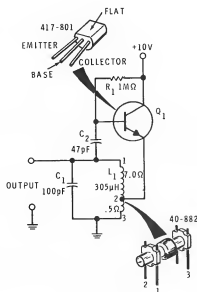

Figure 4-93
1. Construct the series-fed Hartley oscillator shown in Figure 4-93. Pay special attention to component placement and connecting wire lengths, as these affect distributed circuit capacitance. The inductor terminals are identified in the illustration, but you can identify the terminals with an ohmmeter check.
5. Remove one 100 pF capacitor. This returns the circuit to its original condition of Figure 4-93. Now turn off the ET-3100 Experimenter and remove the 1 M Ω resistor from the circuit. Turn on the Experimenter.